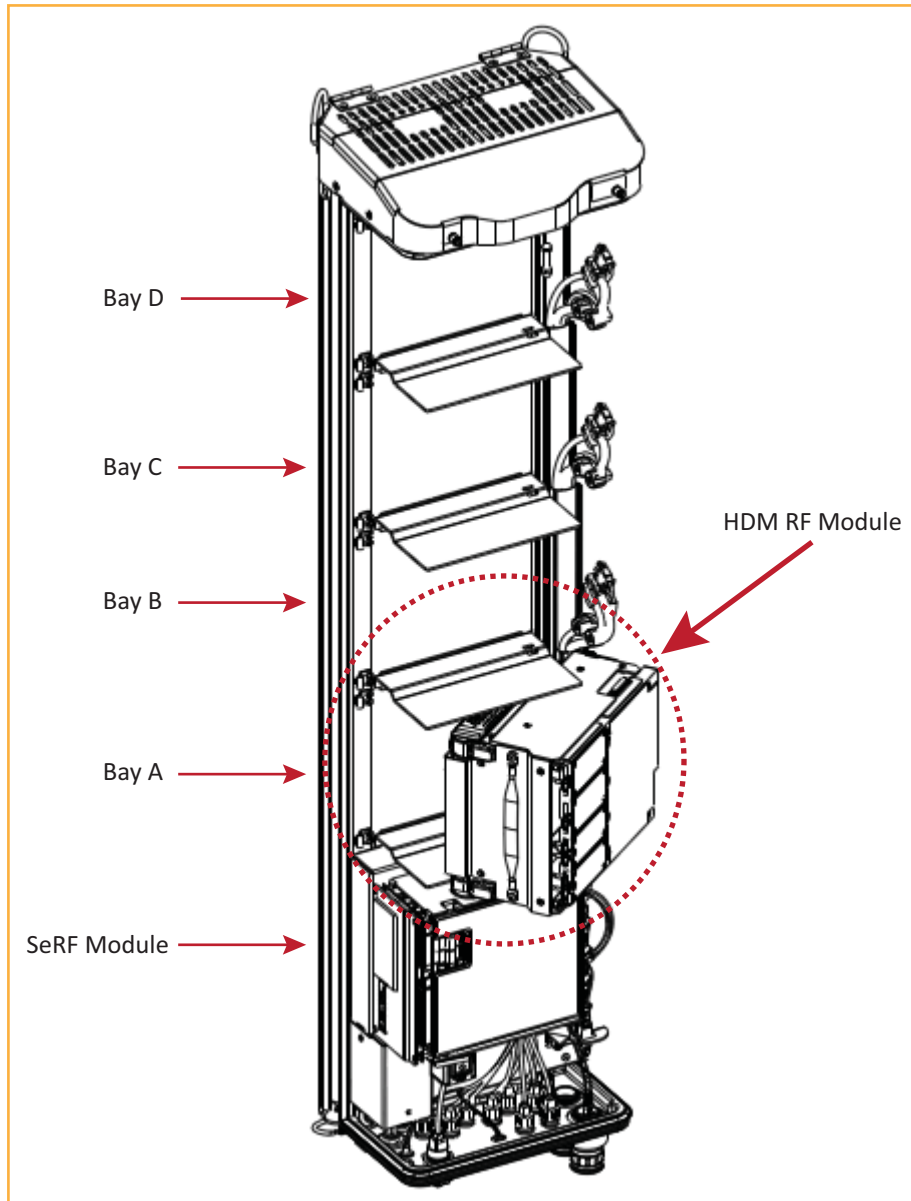

Figure 12. Installing an HDM RF Module
- HDM RF Module: Figure 12 on page 27